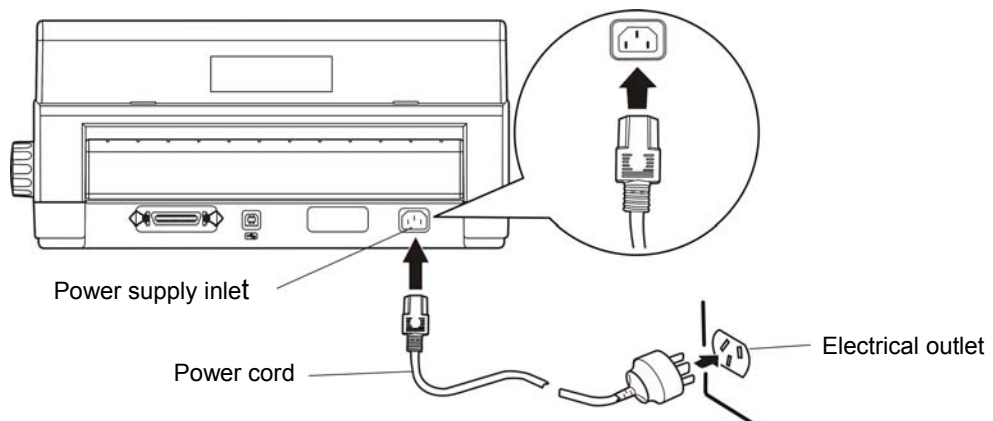

Figure 2-15 Connecting the power cord to the printer
4. Plug the power cord into a properly grounded electrical outlet. (show as figure 2-15)